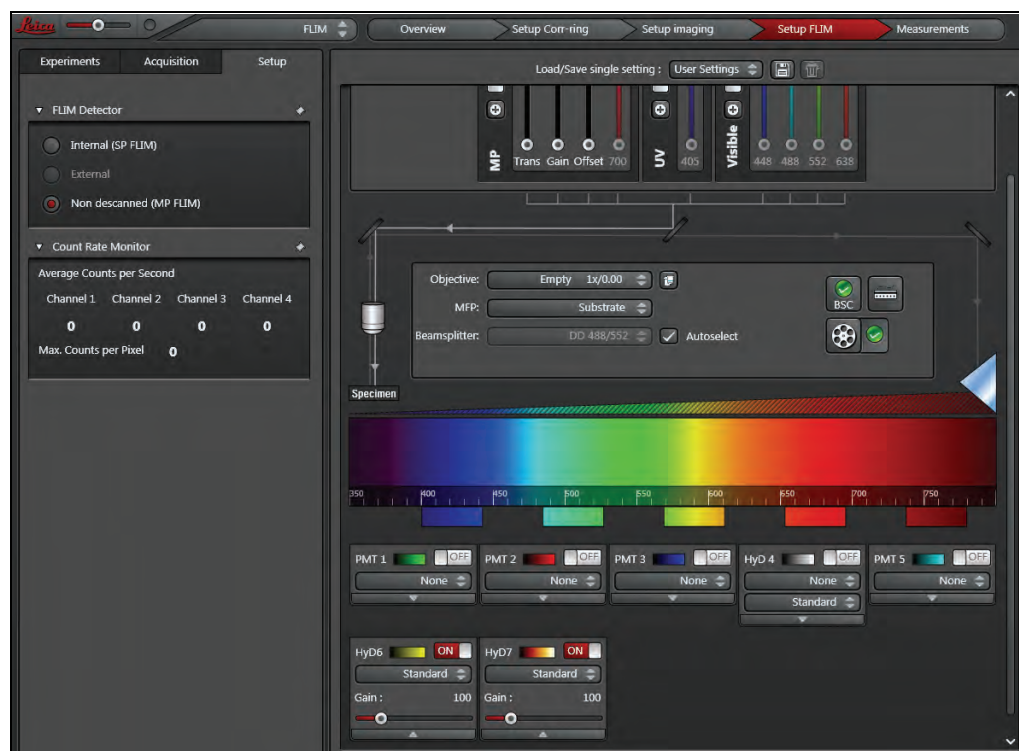

Figure 122: Selecting external HyD RLD for FLIM data acquisition
4. In the **FLIM Detector** dialog, select the **Non-descanned (MP FLIM)** option. In **Beam Path Settings**, the HyD RLD should be selected automatically. If that is not the case, activate the detectors in **Beam Path Settings** with **ON (Figure 122)**.